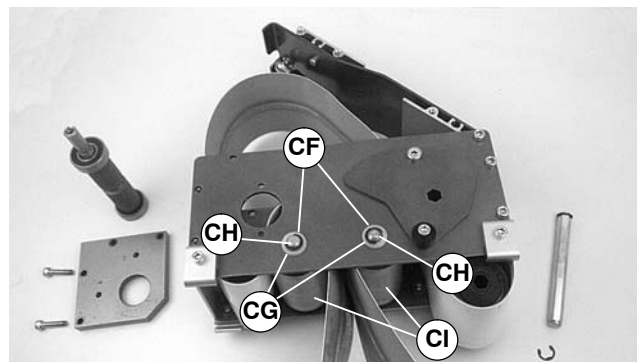

Figure 48
- For 2" (44 mm), 3" (70 mm) or 4" (95 mm) wide conveyor, detach E-ring clips (CF of Figure 48). Remove washers (CG). Remove pulley shafts (CH) and two pulleys (CI).